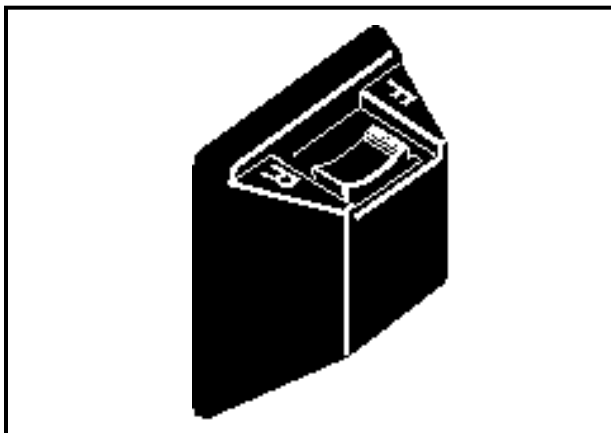

Figure 6
The forward/reverse shift switch is located in the same place as the forward/reverse shift lever on all other DS models; on the seat support panel below and to the right of the driver's right knee. The Forward (F) and Reverse (R) positions are clearly marked on the switch. Push down the **F** (forward) side of the switch to run the vehicle in the forward direction, or push down the **R** (reverse) side of the switch to run the vehicle in reverse. When the switch is positioned with neither side down, the vehicle is in the "neutral" position and the vehicle will not run if the accelerator is depressed (**See Figure 6**).